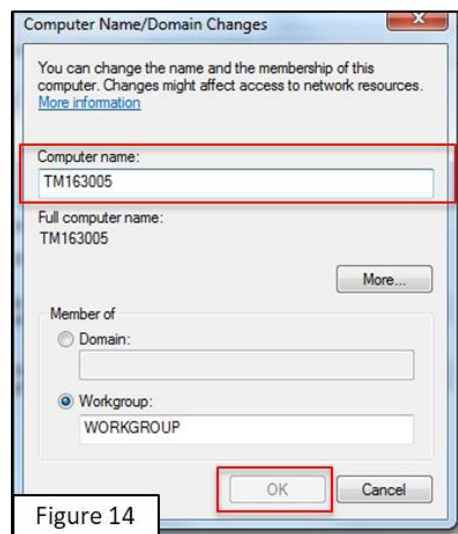

Figure 14
- Input the name below the Stick QR code in the field of computer name and click **OK** (as shown in Figure 14).